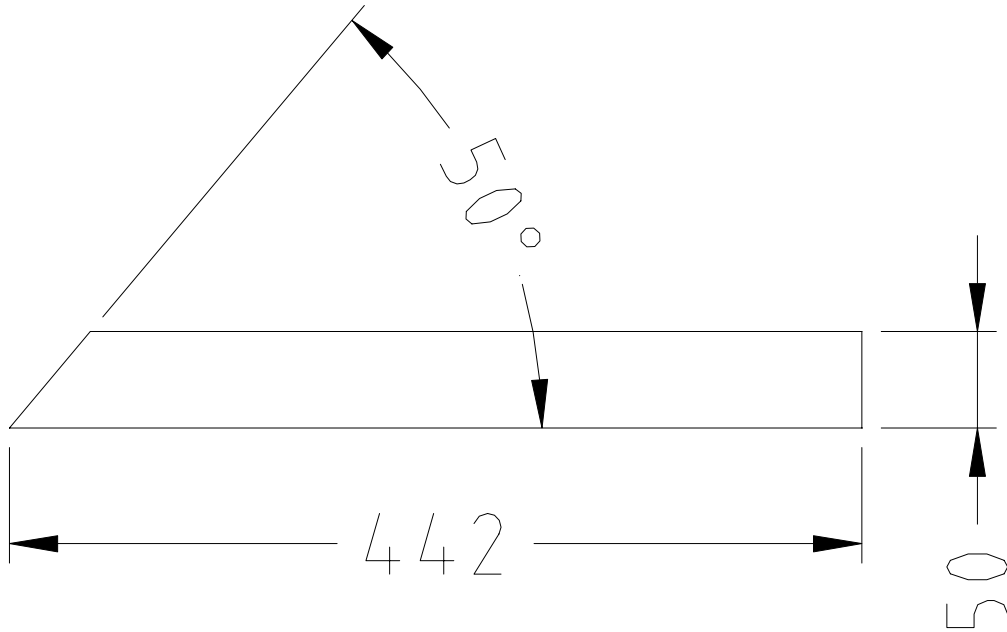
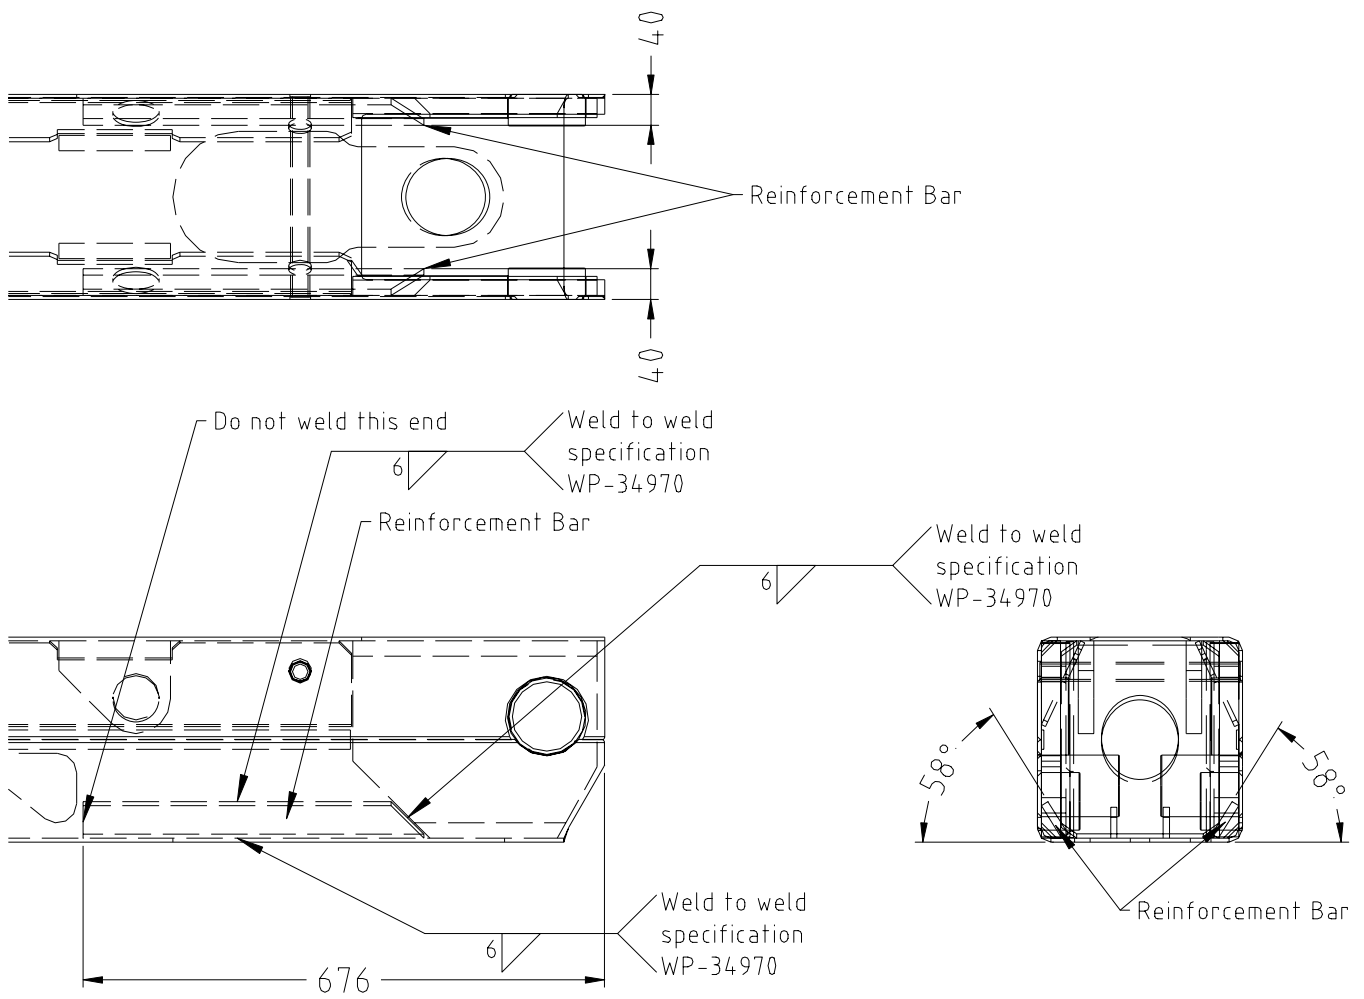

Figure 4: Reinforcement bar required made out of Grade 250 Flat bar 50 x 10.
Figure 5: Requirements for welding in reinforcement bars.
4. Once pressing centres are correct and pressings are straightened, cut out of 50 x 10 Flat bar, Grade 250, two pieces 442mm long with a 50° angle on the end of it as pictured in figure 4. These parts need to be tacked into position using the dimensions in figure 5, and welded to weld specifications WP-34970.